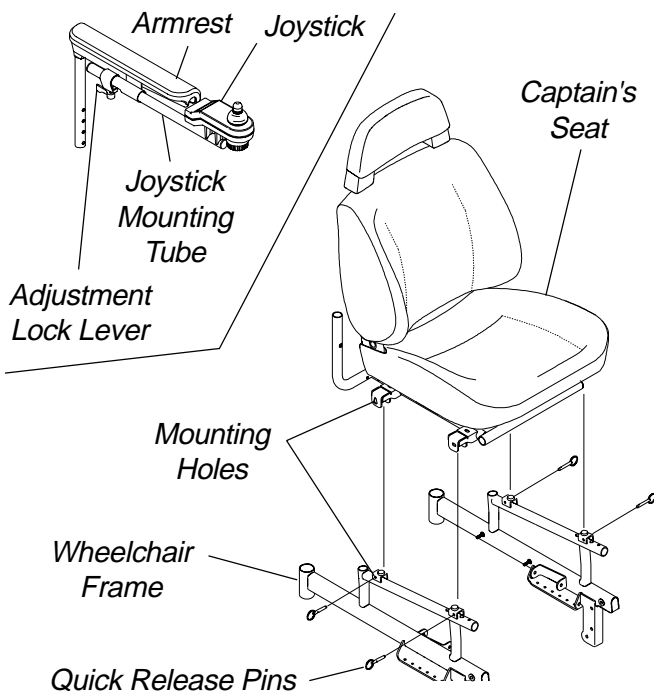

FIGURE 3- REMOVING/INSTALLING CAPTAIN'S SEAT
1. Push the Captain's Seat down on the wheelchair frame at the position shown in FIGURE 3.